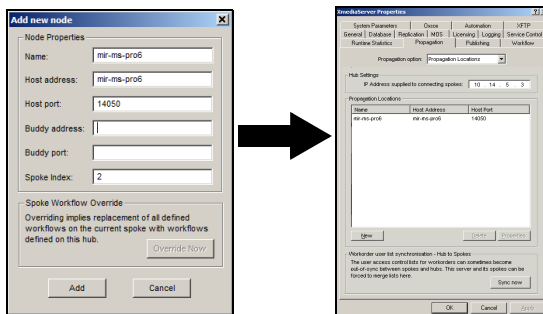

Figure 17-14. Adding a spoke server node to the hub server's Propagation Options page
5. Click **ADD** at the bottom to add this spoke server node (figure 17-14).